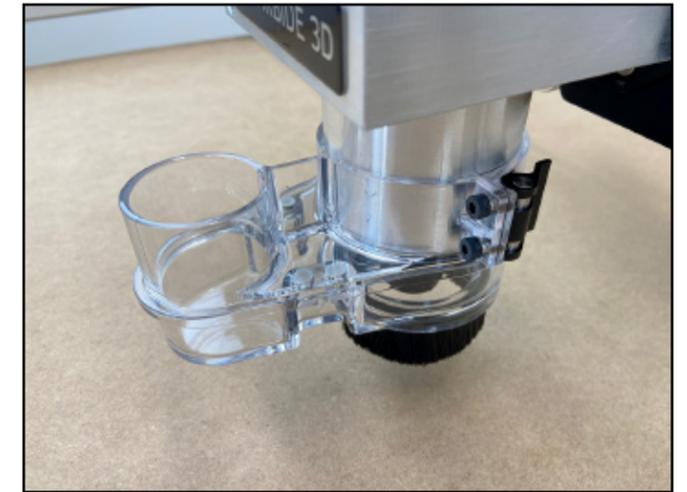

Figure 8-8
1. Fully seat the upper half of the dust boot onto the router's lower motor housing with the 36mm dust port facing forward and toggle the quick release to tighten. See **Figure 8-8**.